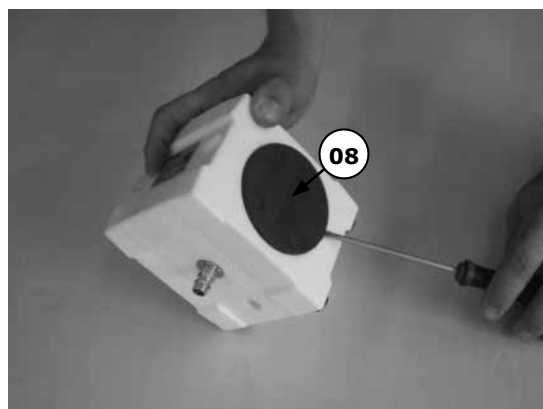

Figure 6
Remove the covers (08) of the side housings (02-03) by pushing gently a screw driver in the opening of the side housing (see Figure 6).